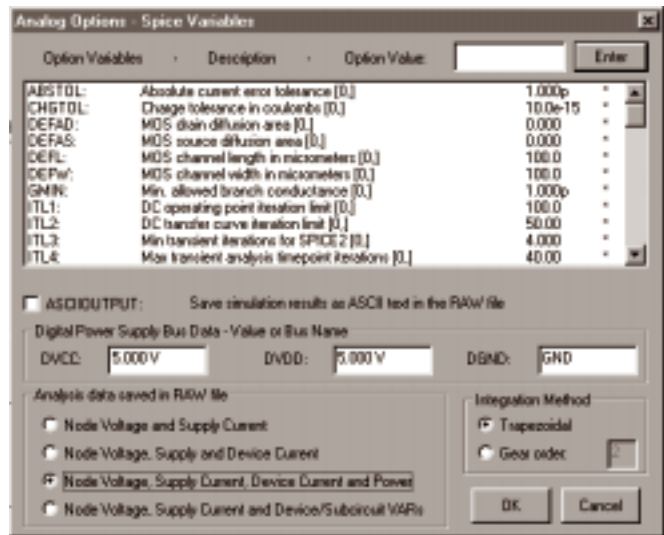

Figure 15.1. This dialog box lists the SPICE option variables, which you can change. An asterisk (*) in the dialog box denotes default values for each option.
- 1 Choose **Simulation > Analyses Setup > Analog Options** to display the Analog Options - Spice Variables dialog box pictured in Figure 15.1.